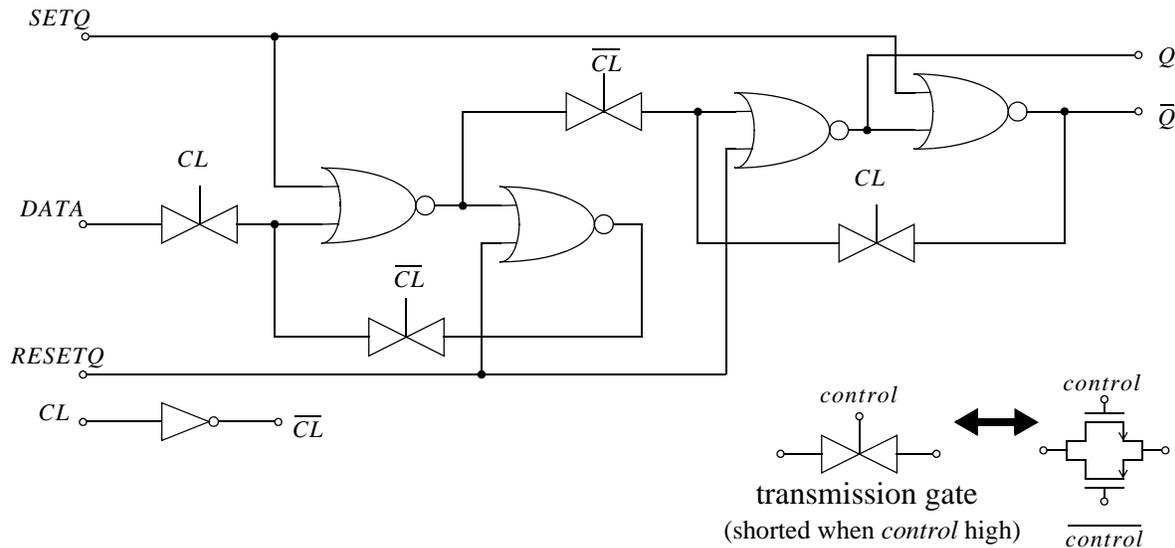

Figure 2: Logic diagram of “D-type” flip-flop[ Ref. section 7.3.4 of textbook]
- L3) Simulate the D-type flip-flop in figure 2 and show that it operates as expected. Use minimum length for all the transistors, and assume  $W_n = 3\mu m$  and  $W_p = 9\mu m$  for all the switches and the clock inverter. But size the NOR gates to achieve a worst case rise/fall times equal to that of the clock inverter.